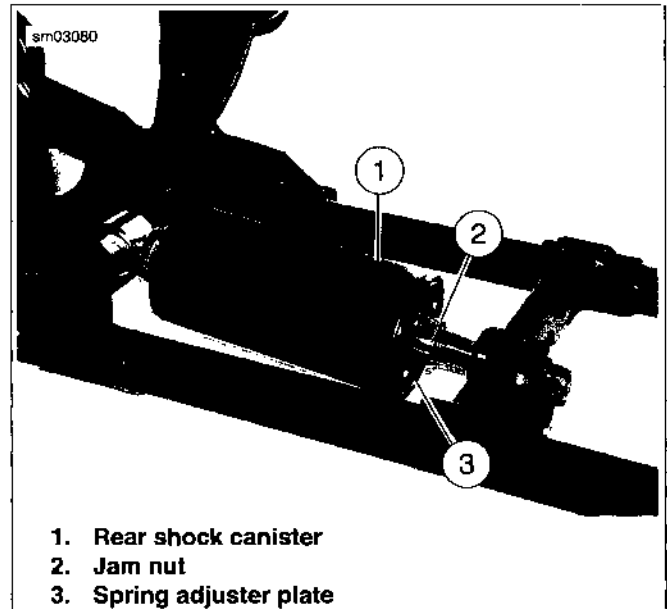

Figure 1-44. Rear Shock Adjustment
- See Figure 1-44. Use a SPANNER WRENCH (Part No. 94455-89) to turn the spring adjuster plate to the desired position.